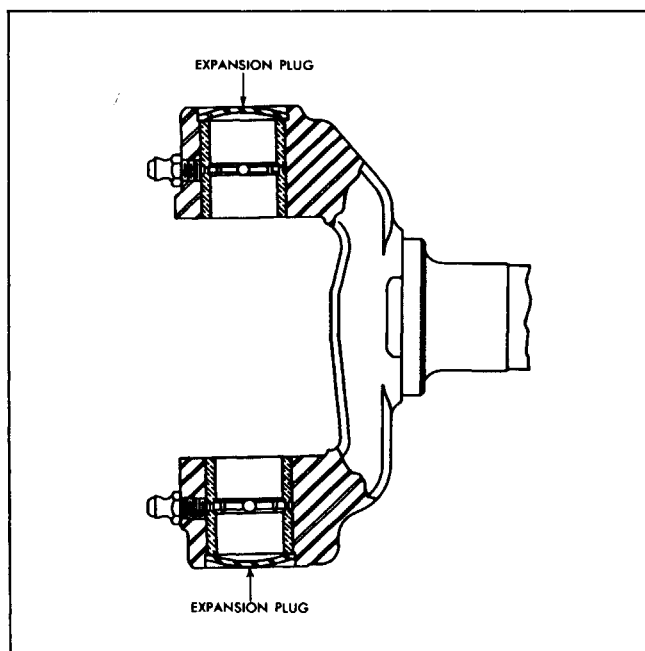

Fig. 3-22 King Pin Bushings Positioned in Steering Knuckle
2. Lubricate new bushings and position in knuckle (Fig. 3-22). **NOTE:** King pin bushings require no special alignment when being installed in steering knuckle.